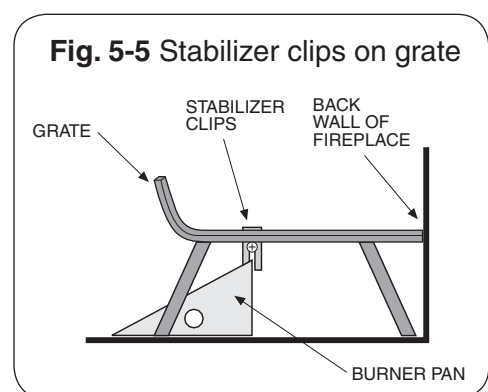

Fig. 5-5 Stabilizer clips on grate
5. Locate the grate (Item 1) and attach the stabilizer clips (Item 4) to the 2 outer bars of the grate with screws and nuts. The stabilizer clips should be positioned towards the middle of the bars (Fig. 5-5). Place a clip on each side of the bar, insert the screw, attach the nut, and loosely tighten. Repeat for the other side.